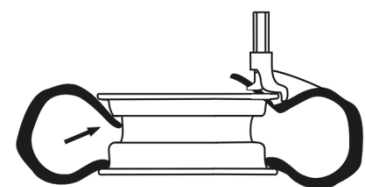

Fig. 22
- Insert the inner tube if there is one and repeat the same operations to mount the upper side of the tire (fig.22).